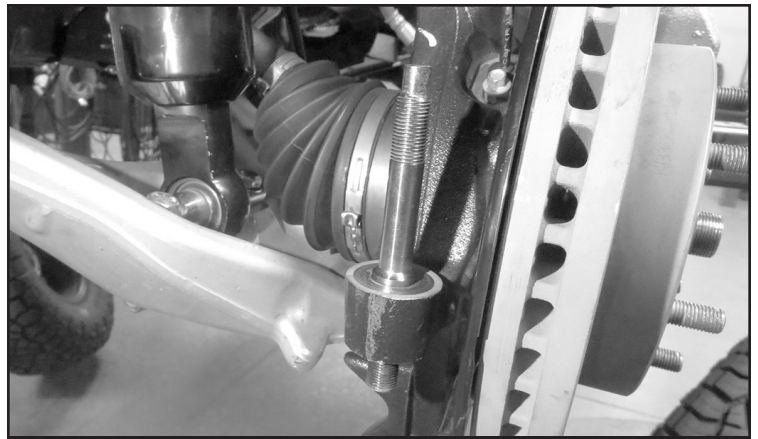

FIGURE 3 - STEP 4
4. Install FT94511 (Knuckle Pin) to the knuckle using the supplied 1/2"-20 nut and washer on the bottom side. Torque to 85 ft-lbs. **SEE FIGURE 3**